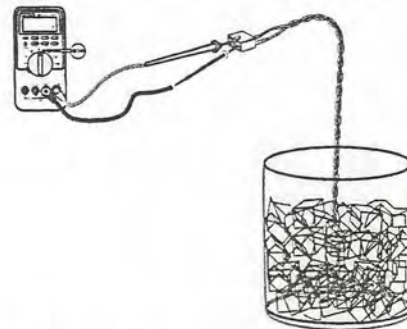

Figure 20. Checking Thermistor resistance with ice bath.
- Immerse the thermistor in a bath of ice as shown in Figure 20 to determine if the resistance values change with temperature changes